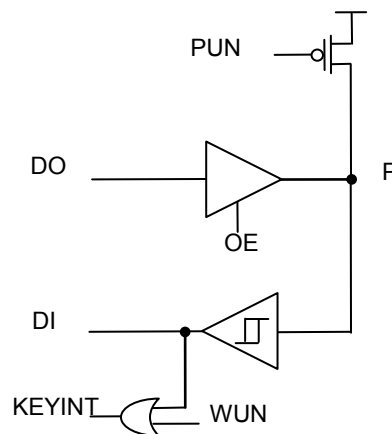

Figure11.1 Ports I/O block diagram
A8107 has two type of digital I/O Pins. One is 24 pins and the other is 28 pins. In 24pins, there are separated to 3 Ports (Port0, Port1 and Port3) and each of the Port pin can be defined as general-purpose I/O (GPIO) or peripheral I/O signals connected to the timers, UART, I2C and SPI functions. In 28pins, there are extra 4pins of Port2 and they are Port2.0 ~ Port2.3. Thus, each pin can also be used to wake A8107 up from sleep mode. User can select each pin function by setting register. Each port has itself port register like P0 (0x80), P1 (0x90), P2(0xA0) and P3 (0xB0) that are both byte addressable and bit addressable. When reading, the logic levels of the Port's input pins are returned. Each port has three registers to setting Pull-up (PUN), Output-enable (OE) and Wake-up enable (WUN). As shown the bellow block diagram, Fig. 11.1. Unused I/O pins should have a defined level and not be left floating. One way to do this is to leave the pin unconnected and configure the pin as a general-purpose I/O input with pull-up resistor.